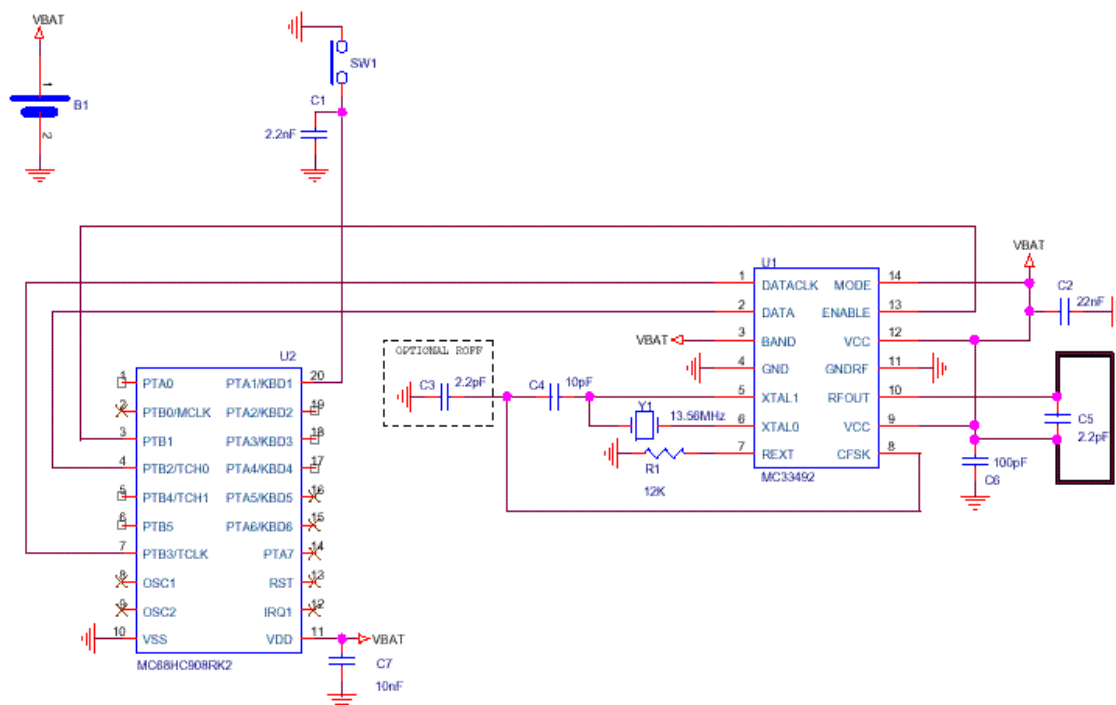

Figure 14. Application Schematic for FSK Modulation, Serial Configuration, 434 MHz Frequency Band
Figure 14 shows a complete application schematic using a MC68HC908RK2 microcontroller. FSK modulation is selected, $f_{\text{carrier}} = 433.92 \text{ MHz}$. C_1 capacitor can be removed if switch debounce is done by software.
- the external load capacitors (C3, C4 as defined in Figure 14 and Table 9)